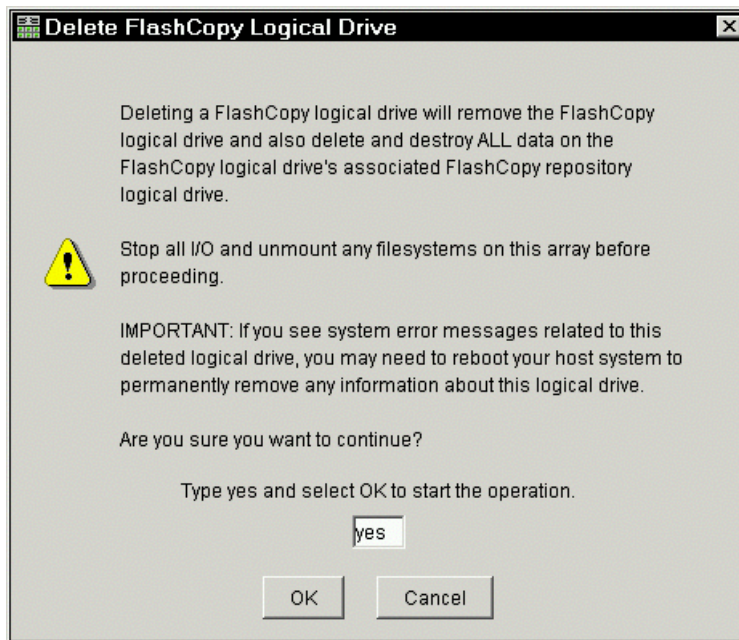

Figure 5-32 Delete FlashCopy Logical Drive dialog
3. The Delete FlashCopy Logical Drive dialog opens as shown in Figure 5-32. Type Yes and click **OK**.